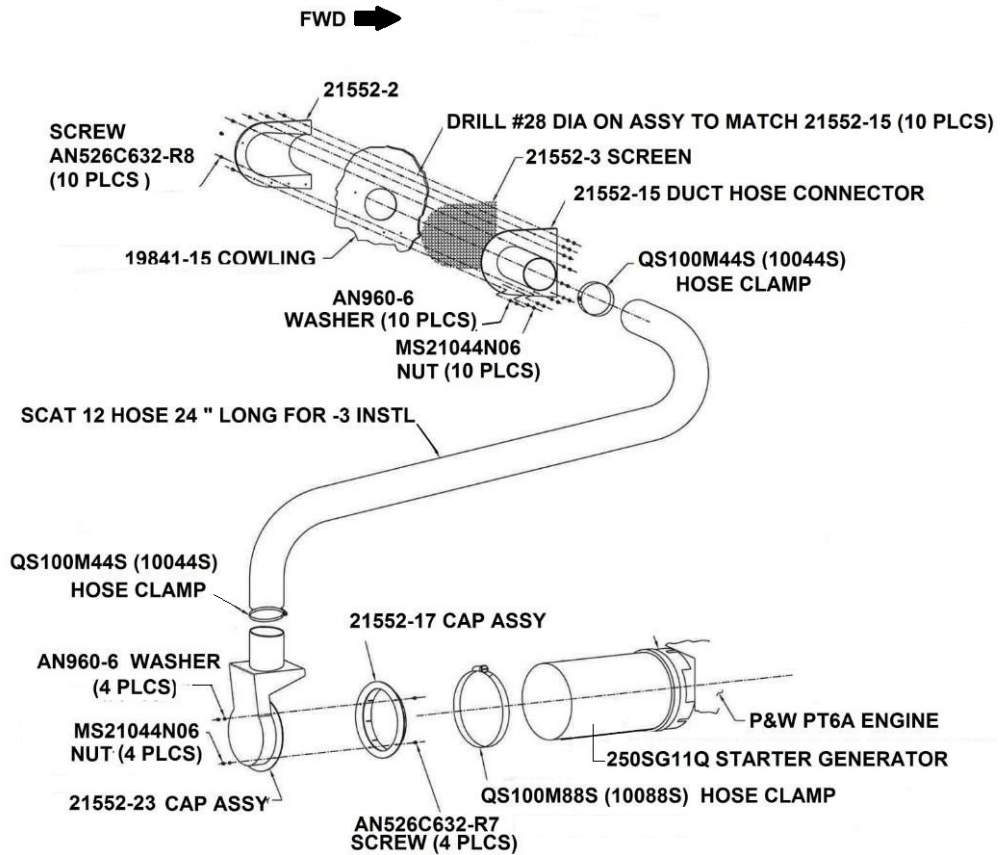

Figure 45-20
- c) Assemble the 21552-2 Scoop to the Cowling Skin Assy and connect it to the Starter Generator with the hardware shown in figure 45-20.